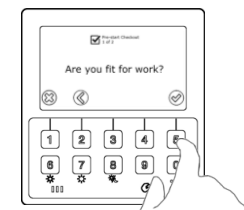

Figure 8 Completing the checklist
3. Answer any checklist questions, if required (Figure 8).